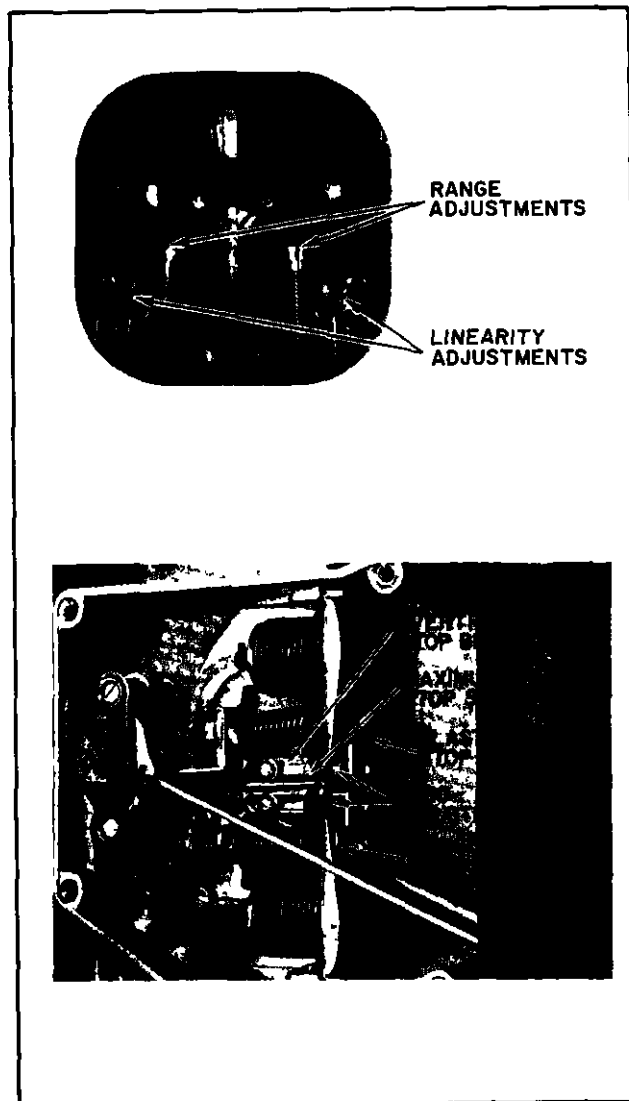

FIGURE 3 – Vertical Gage Unit Range, Linearity and Zero Adjustments
- 2 Apply 3 psig (20.7 kPa) and adjust zero adjustment screws (Figure 3) through holes in scale using 5/64 inch Allen wrench until both pointers read minimum scale
### Vertical Gage Unit Assembly (Figure 3)
does not read correctly turn zero adjustment screw (Figure 3) until desired reading is obtained. Zero adjustment is accessible from front of station by removing scale cover and inserting a 5/64 inch Allen wrench thru hole in scale.
7 Apply pressure to gage unit equal to first major scale division below 100% scale. If pointer does not read correctly, turn range adjustment screw (Figure 3) until desired reading is obtained.
9 Apply pressure to gage unit equal to mid-scale division. If pointer does not read correctly, but does read correctly in steps 6 and 7 above, adjust angularity pivot shaft (linearity adjustment) to bring pointer reading to midscale (Figure 3).